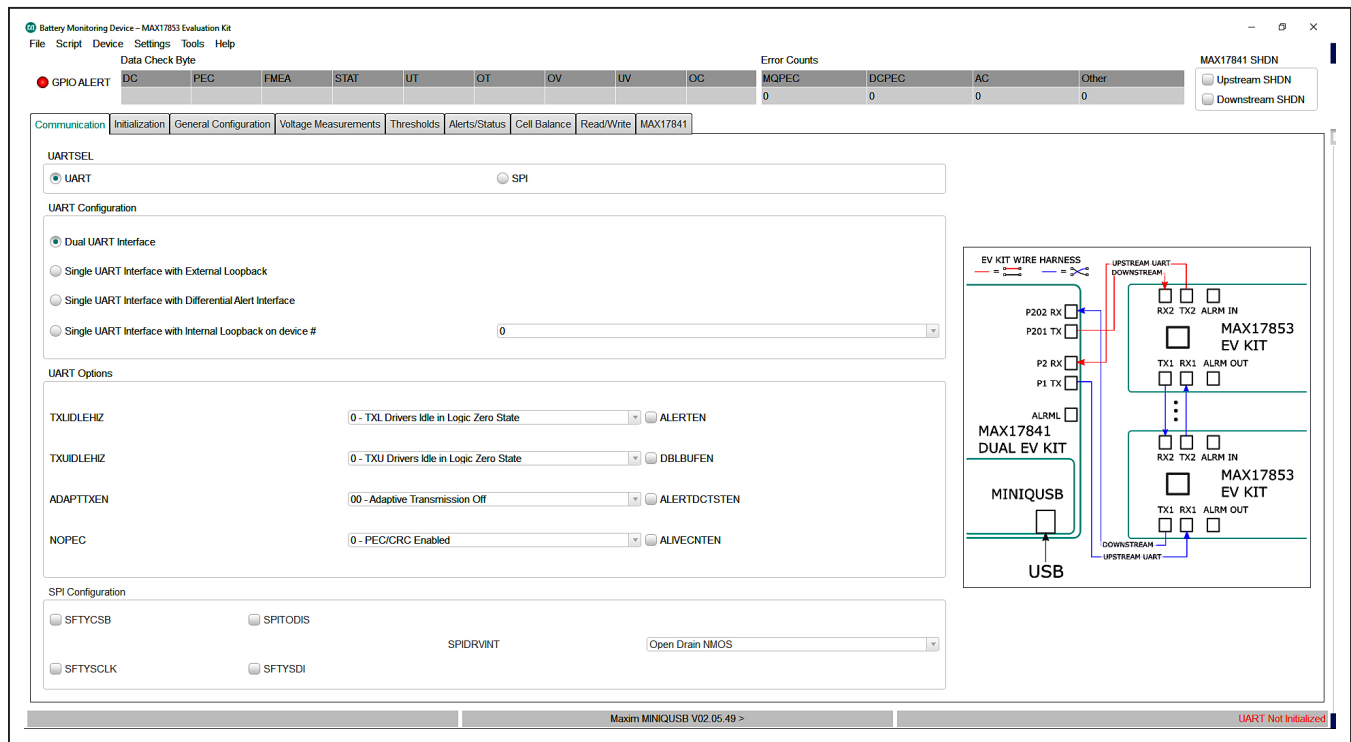

Figure 8. Communication Tab
V02.05.xx and **UART Not Initialized** (see Figure 8). With the MINIQUSB detected, the user can proceed to the next step.
- 13) In the **Communication** tab (Figure 8), click on the **Single UART with External Loopback** radio button.
The GUI startup cockpit is designed to guide the user through hardware setup and provides overall startup system information. At startup, the GUI automatically initializes and establishes communication with the Maxim MINIUSB+ interface board and places the user on the **Communication** tab (see Figure 8). UART status is shown in the lower-right corner of the cockpit.
The GUI is preset to UART communication with a dual UART interface (see Figure 8). When selecting the UART
Located in the **Communication** tab (Figure 8) is the **UART Options** group box. Options set in the **UART Options** group box control TXL and TXU idle state impedance, adaptive transmission setting, and packet error check (PEC). The user can also enable and evaluate the alert function, double-buffer feature, UART DC diagnostic test, and control the alive-counter bit (ALIVECNTEN).